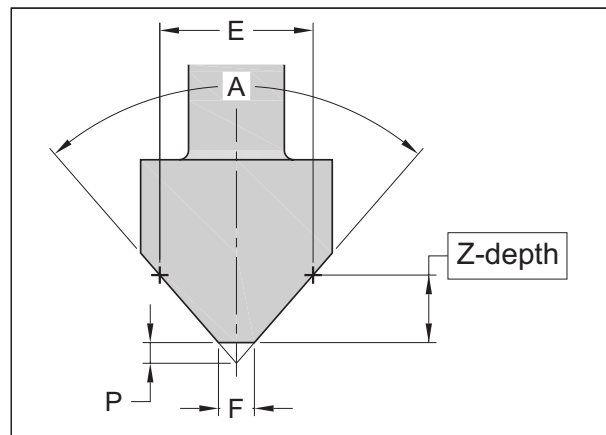

Figure 26-24
*Figure 26-24* shows provided dimensions  $E$ ,  $A$ , and  $F$  and unknown  $P$  and Z-depth countersinking dimensions required for depth programming of a countersinking tool.